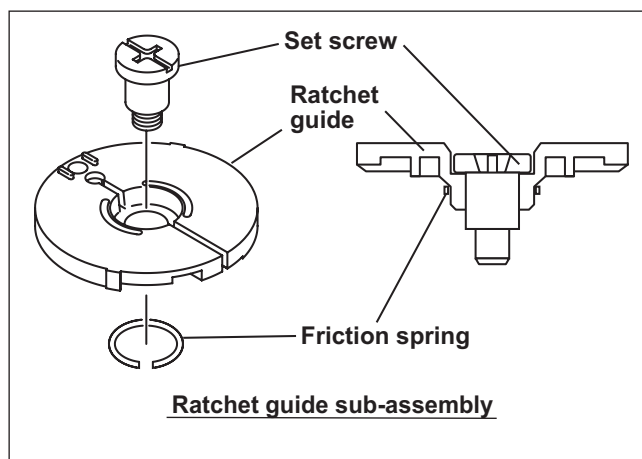

Fig. 14-6
- 2 Mount the ratchet guide assembly, taking care not to move the ratchet. (Fig. 14-6)